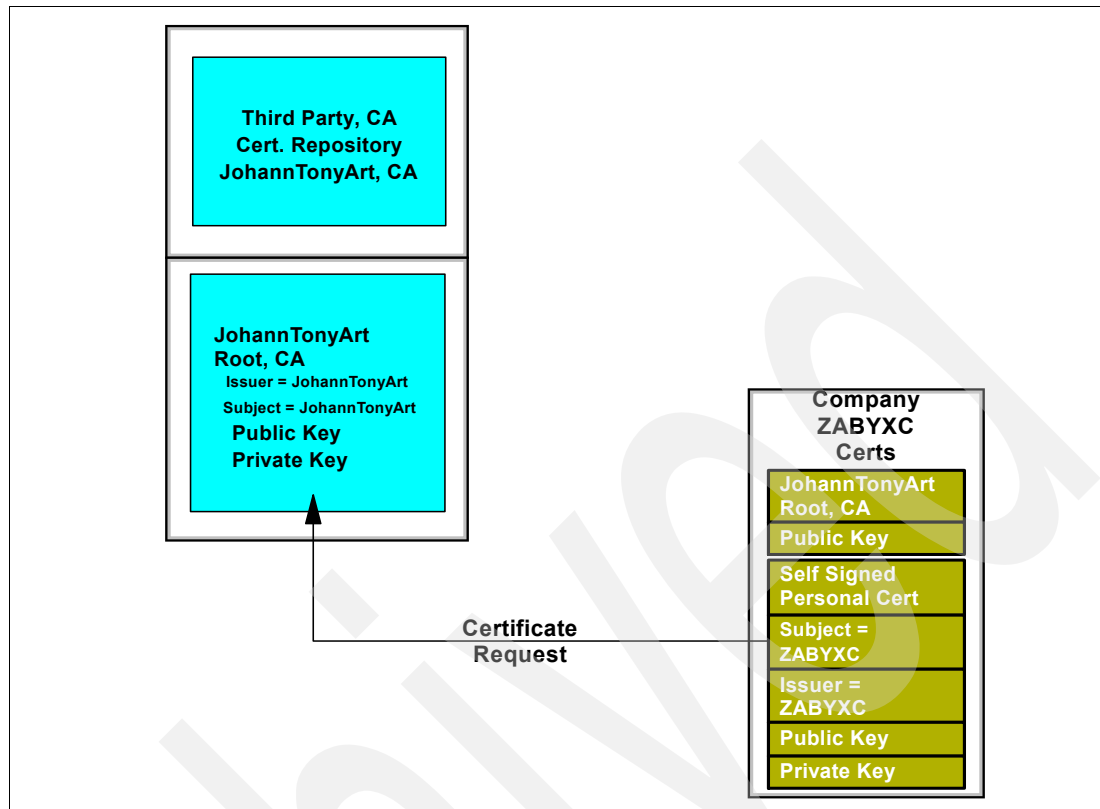

Figure 1-11 Certificate request
For example, Figure 1-11 on page 17 illustrates what company ZABYXC does to generate a certificate request to the JohannTonyArtCA third-party certificate authority (CA) company. In the figure, we see that company ZABYXC already trusts JohannTonyArtCA, because ZABYXC has a copy of the JohannTonyArtRootCA in its certificate repository. This copy of JohannTonyArtRootCA has only the public key and an encrypted copy of the public key, which is encrypted with JohannTonyArtRootCA's private key.